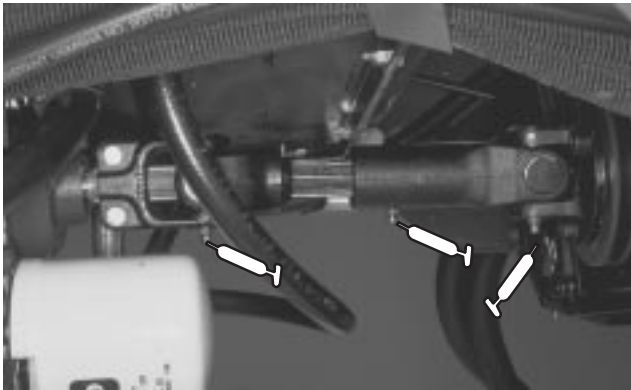
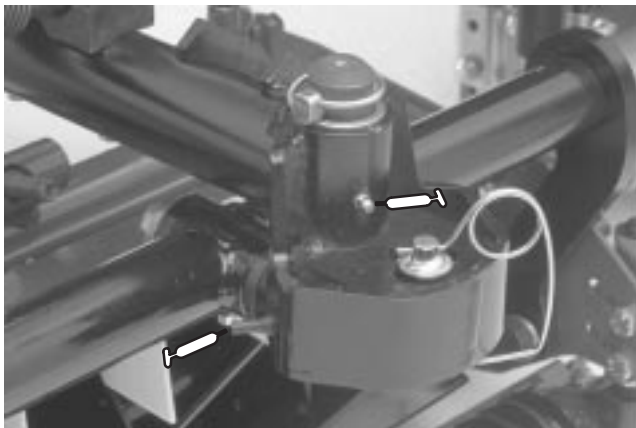
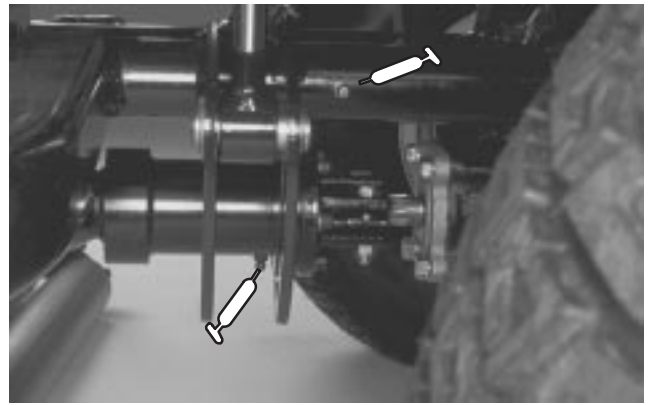
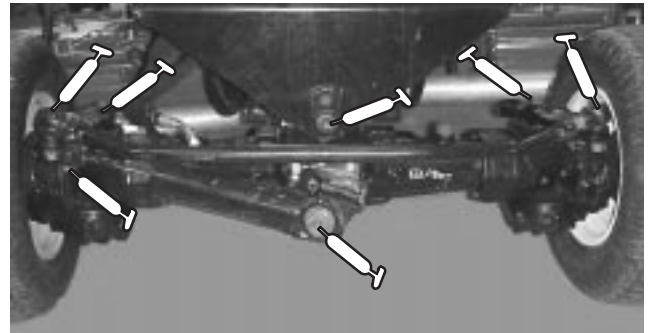

Figure 30
Figure 31
Figure 32
Figure 33
(Fig. 30 – 37)
1. The grease fitting locations and quantities are: Engine Drive shaft (3), (Fig. 30); Cutting unit carrier frame and pivot (2 ea.), (Fig. 31); Rear lift arm pivots (2), Drive shaft clutch (1) (Fig. 32); Rear axle tie rod (2), Steering cylinder ball joints (2), Axle steering pivots (2) Rear axle pivot (1) (Fig. 33); Traction control linkage at transmission (1), Drive shaft support bearing (1), Rear axle drive shaft (3) (Fig. 34); Brake pedal (1) (Fig. 35); Lift cylinders (5) (Fig. 36), front lift arm pivots (3) (Fig. 37) and fan drive pulley (Fig. 38).